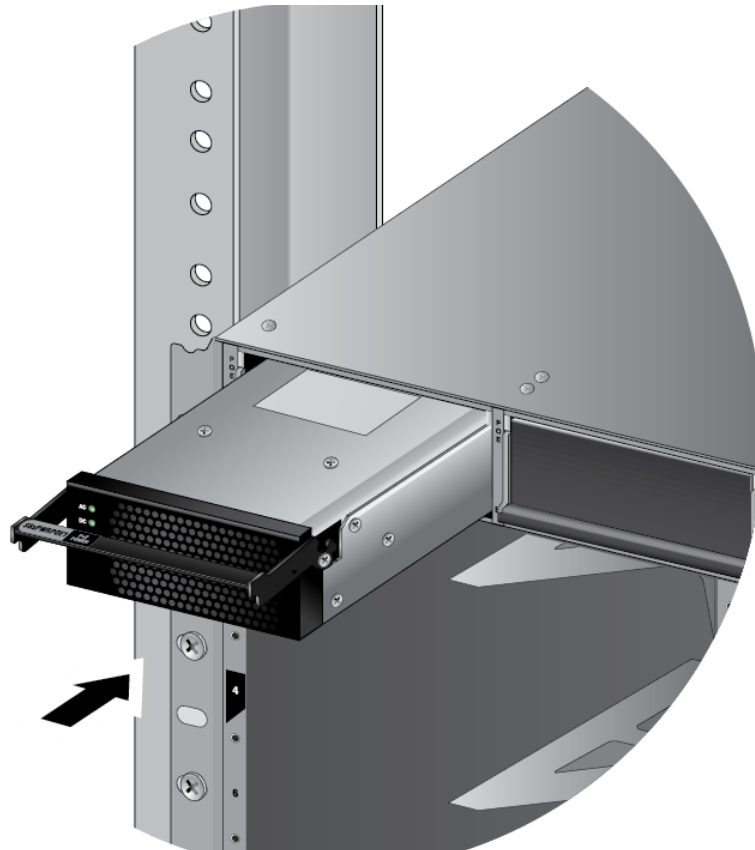

Figure 56. Inserting the AT-SBxPWRPOE1 Power Supply
5. Align and insert the AT-SBxPWRPOE1 Power Supply into slot A or B. Figure 56 shows the power supply being installed in slot A.